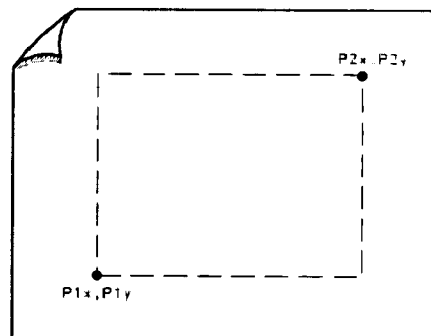

Figure 4-5. P1 and P2 Coordinates
3. Know how to select the scaling points on your plotter. The scaling points (referred to as the P1 and P2 plotter coordinates) define the lower-left and upper-right corners of the plot (see Figure 4-5). These coordinates define the size of the plot. Table 4-1 shows the scaling points for several Hewlett-Packard plotters.